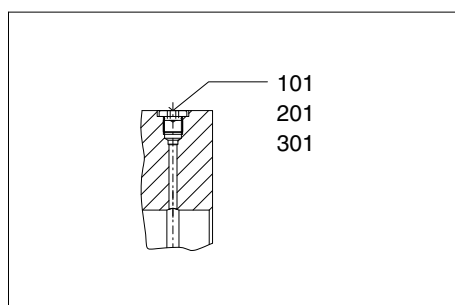

Fig. 7: Screw plug
¹⁾ The screw plugs (101 / 201 / 301; see fig. 7) are used only with an oil-hydraulic interference fit (see item 3.6).